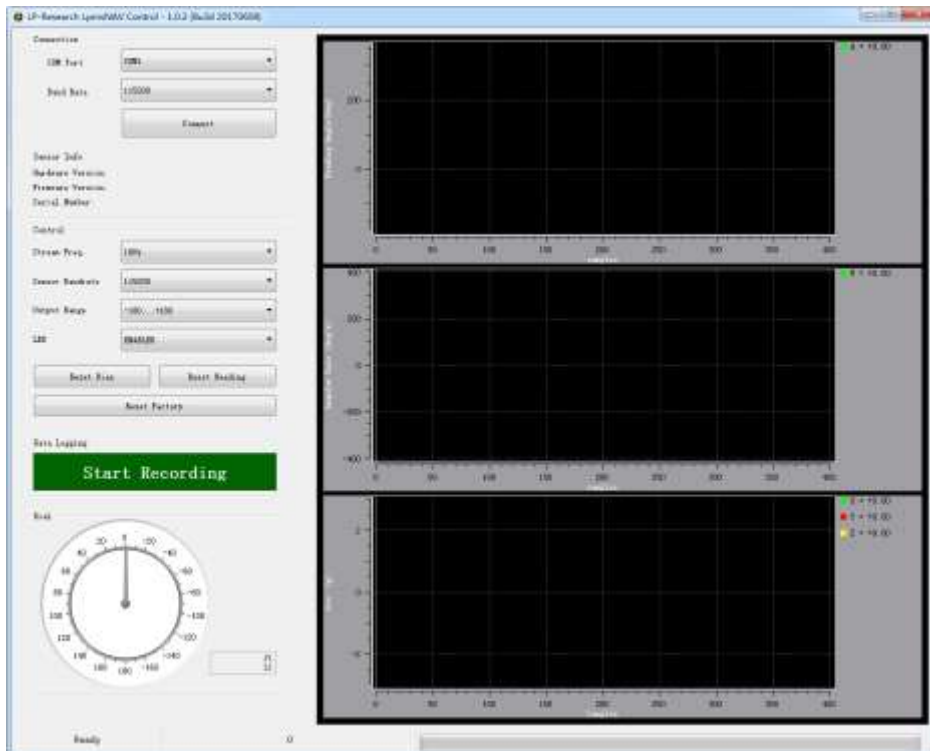

Fig.7.1. LpNAV-Control-V1.0.2 GUI
- 5) On the COM Port setting, please choose the relative COM port number showed in the device manager, then select sensor baudate and click the "Cnnect" button, as showed in Fig.7.1.